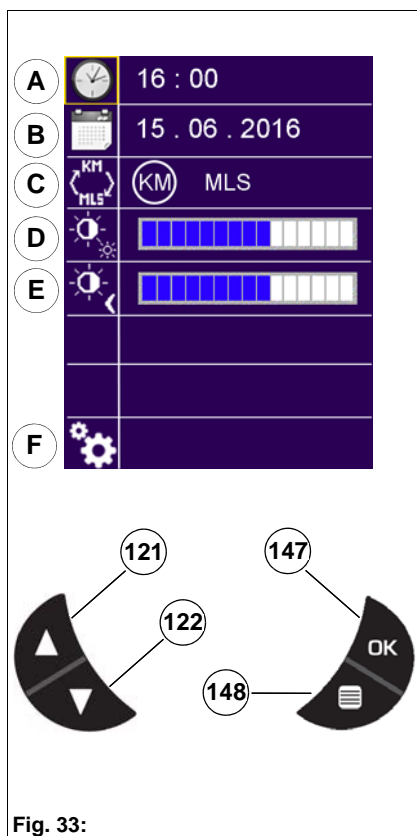

Fig. 33:
1. Select the symbol **Fig. 33-A**.
- Select the symbol **Fig. 33-B**.
- Select the symbol **Fig. 33-C**.
- Select the symbol **Fig. 33-D**.